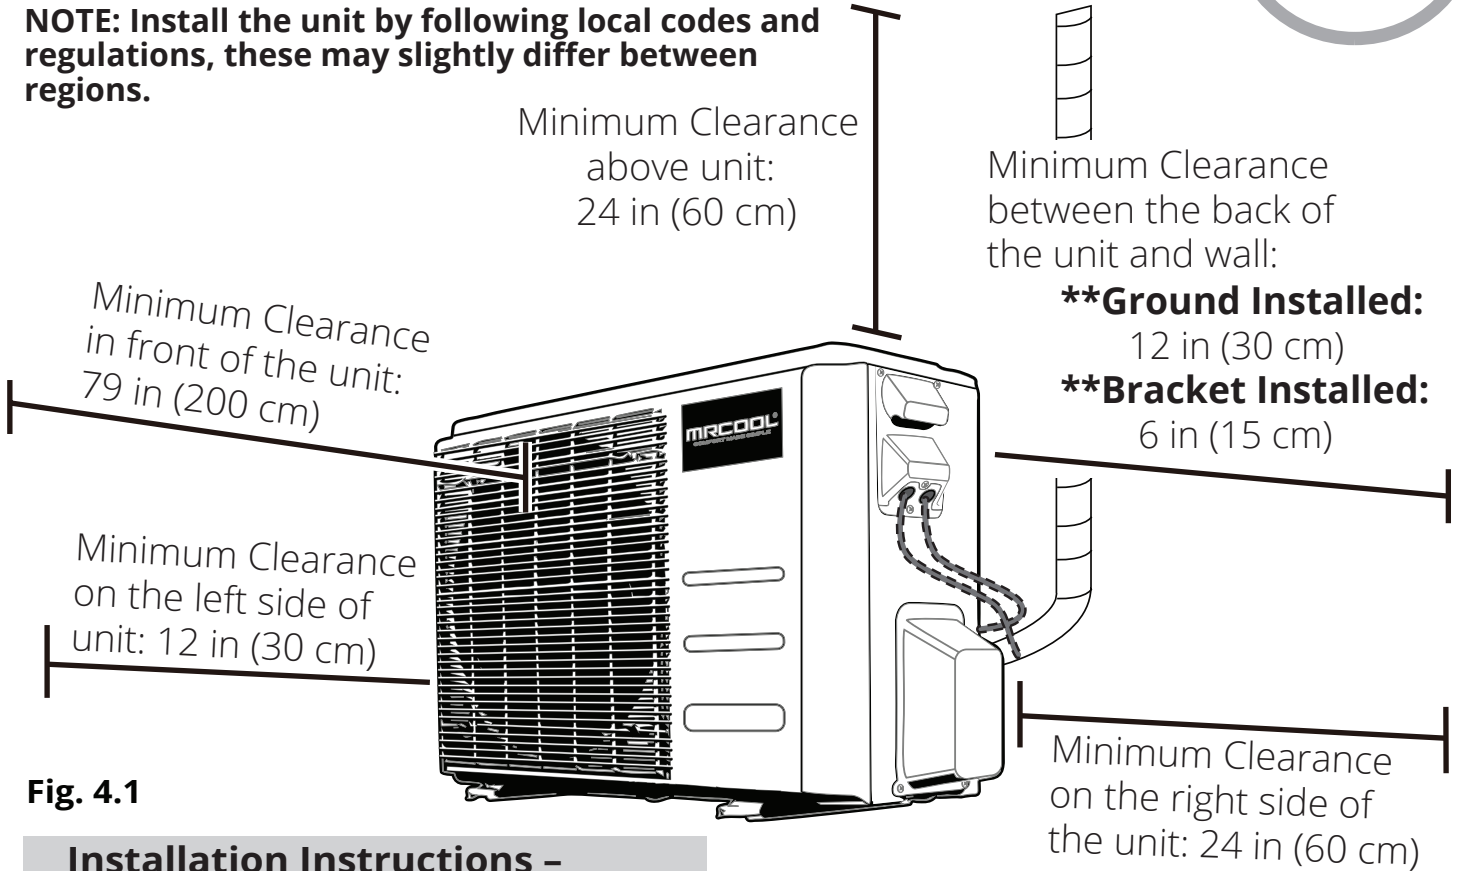

Fig. 4.1
- ☑ Meets all spatial requirements shown in the illustration above (Fig. 4.1)